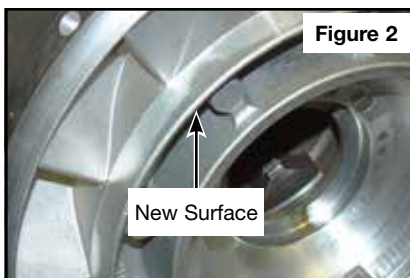

Figure 2
- Machine a new surface on the stator body casting forward of the inner blade mount points. Machine in far enough to be used as a new lathe chuck holding point, but avoid contacting the stator blades (**Figure 2**).